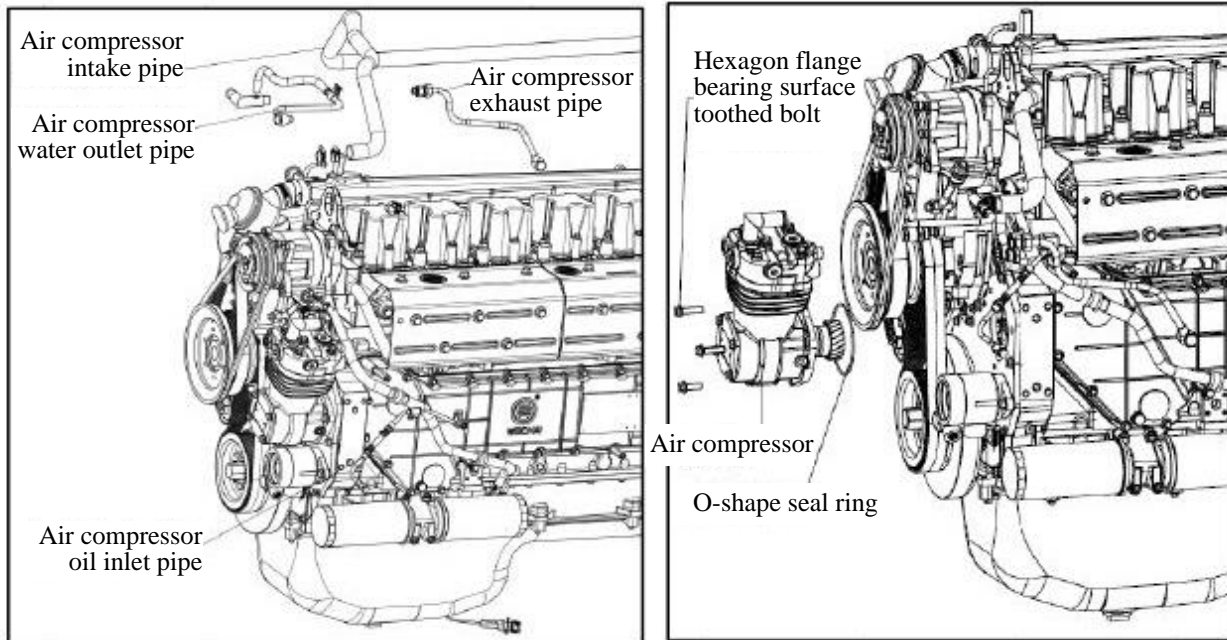

Fig. 4-88 Disassembly of air compressor
- (1) Remove air compressor intake pipe, water inlet pipe, water outlet pipe and oil inlet pipe.
- (2) Remove the three hexagon flange bearing surface toothed bolts and take down the compressor and O-shape seal ring. As shown in Fig. 4-88.